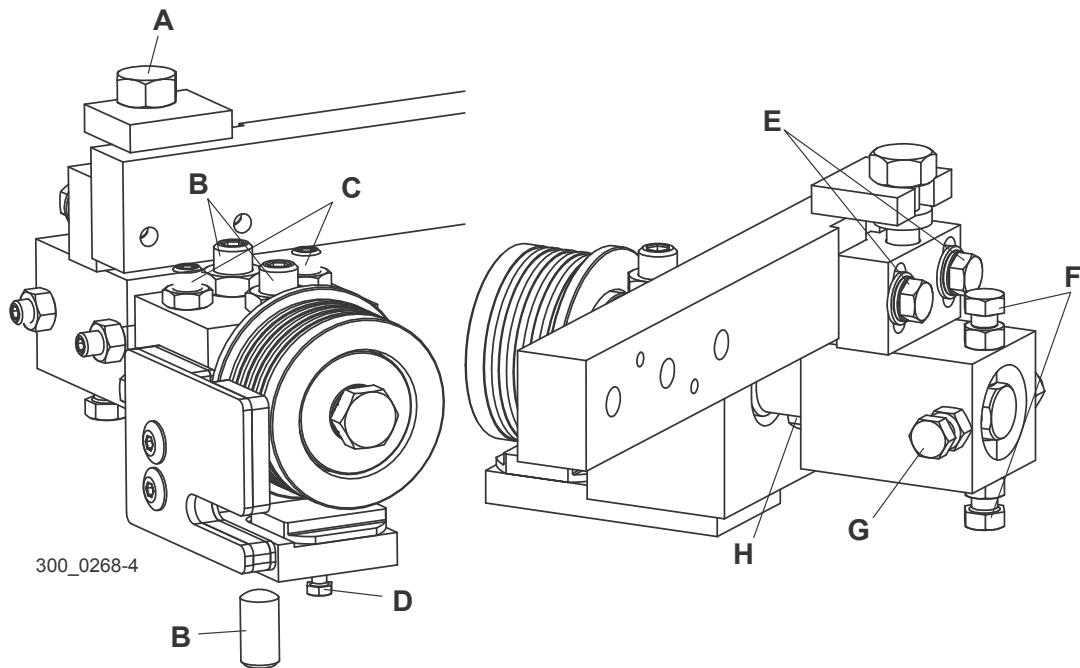

FIG. 3-23
See Figure 3-23. Standard Roller/Block Guides: Move the guide assembly forward until the roller flange is 1/16"-1/8" from the back edge of the blade and tighten clamp bolts (F) and (G). Turn blade guide assembly bolt (A) counterclockwise to lower the guide roller until it deflects the blade down 1/4". Adjust the blade guide screws (B) to raise or lower bottom block to **.008" - .010" from bottom of blade**. Repeat for other blade guide assembly.